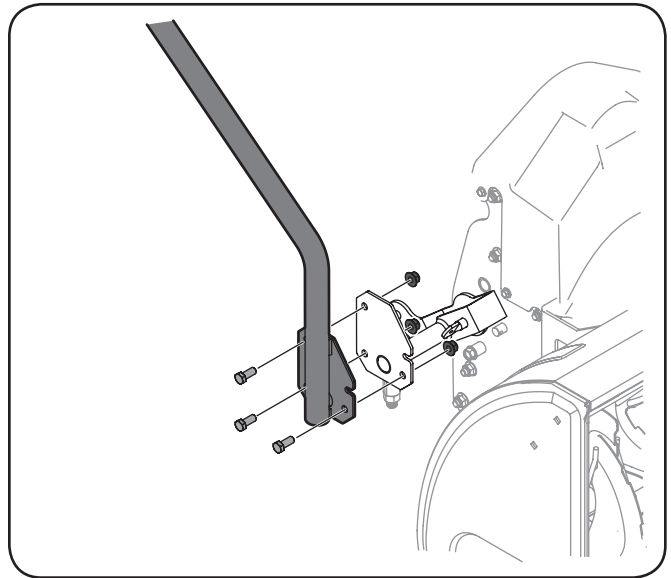

Figure 3-20
- Using two  $\frac{7}{16}$ " wrenches, secure the lift handle to the auger housing assembly with three hex screws and flange lock nuts. See Figure 3-20.